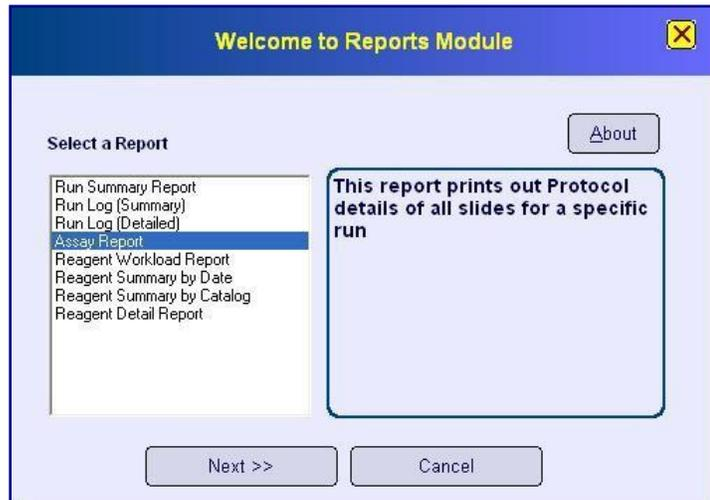

Figure 71: **<Welcome to Reports Module>** Window
Either way, the **<Welcome to Reports Module>** window (Figure 71) will appear. This window is the main interface for printing.
The Xmatrx[®] software provides the user with eight (8) types of default report formats. These reports will summarize the staining data for reference. The **<Welcome to Reports Module>** window (Figure 71) displays the various types of reports in the left column. Selecting a report type will display a short description in the box on the right.